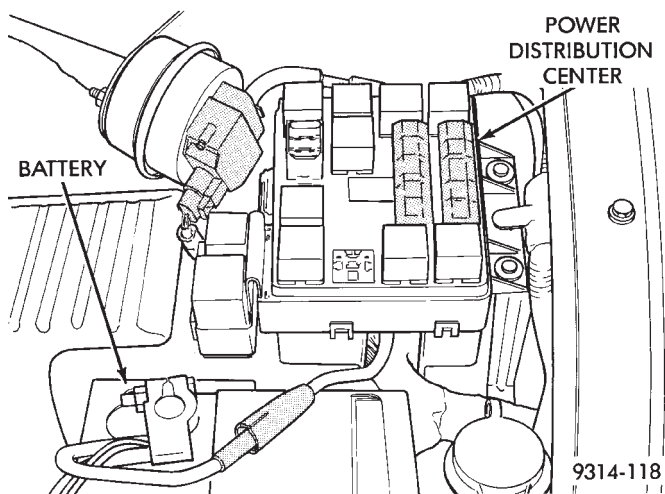
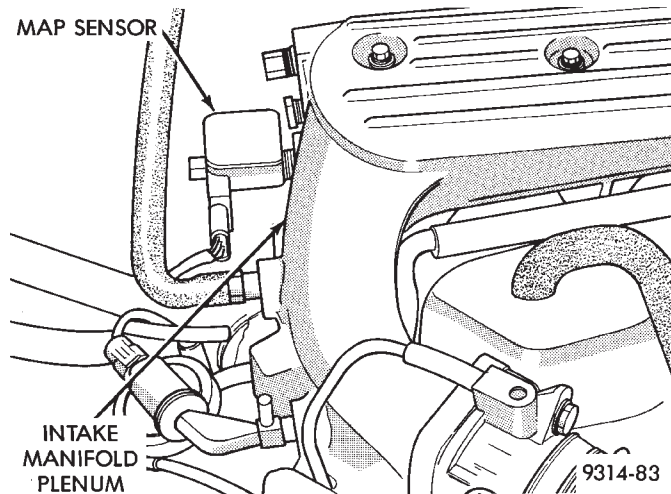
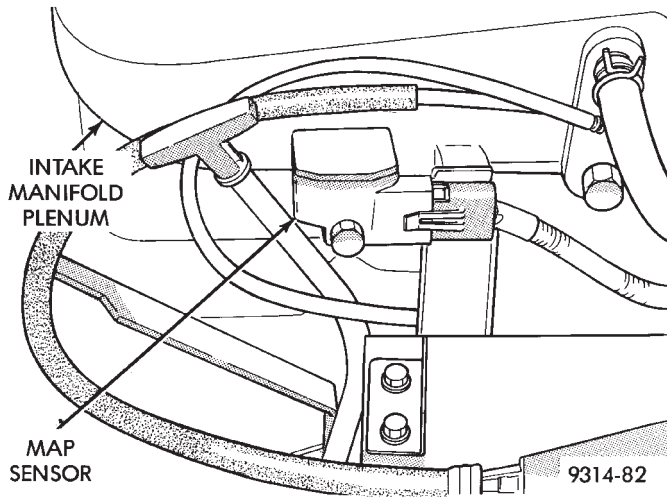

Fig. 2 Power Distribution Center
Fig. 3 MAP Sensor—3.3L Engine
Fig. 4 MAP Sensor—3.5L Engine
(1) Remove the power distribution center cover. Check for blown fuses. Ensure all relays are properly installed (Fig. 2).
(2) Check the battery terminal connections for loose cables and corrosion.
(3) Check the MAP sensor electrical connection (Fig. 3 or Fig. 4).